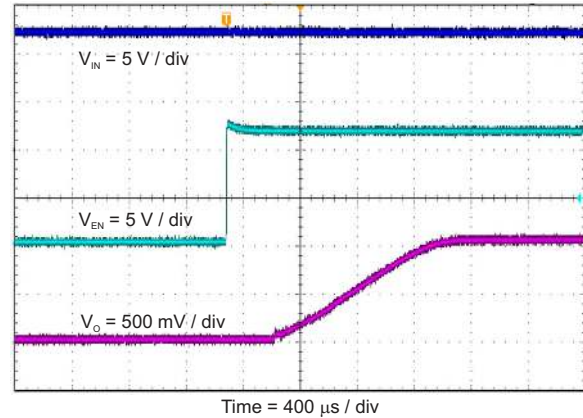

Figure 4-11. Start-Up Relative to EN
The TPS563201EVM-715 start-up waveform relative to enable (EN) is shown in Figure 4-11. Load = 1 Ω resistive.